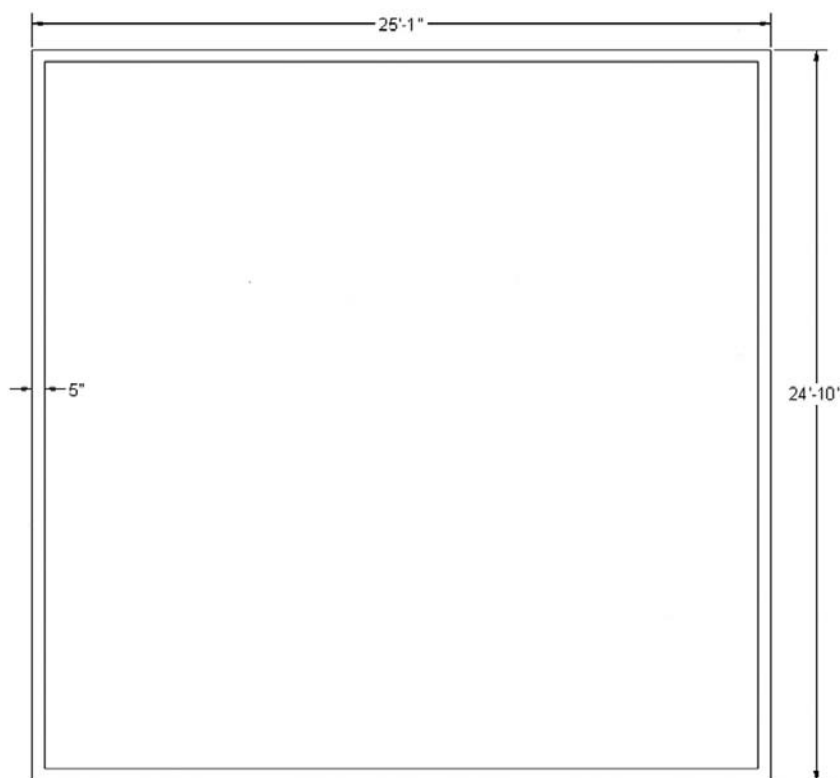

FIGURE 3.13
7. Explode both wall rectangles. This is needed to break apart the rectangles for use as the basis for the interior walls as well as doorways and windows. You should now have a total of eight individual lines, as seen in Figure 3.13.